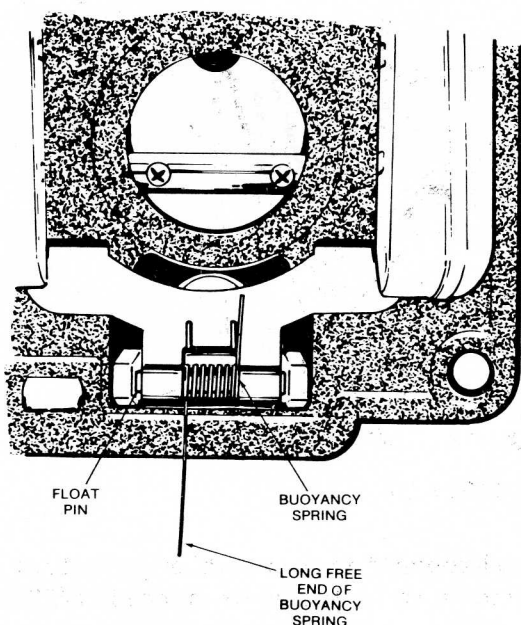

FIGURE 2
12. Reinstall the helper spring with the long free end pointing away from the float and on the side closest to the fuel inlet passage. See Figure 2.